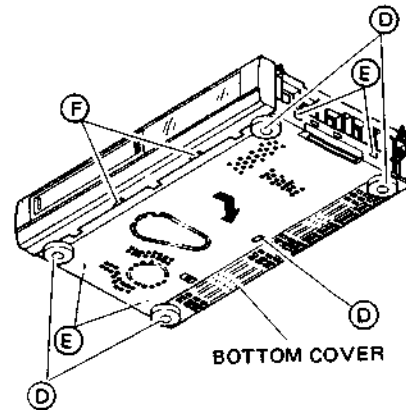

Fig. 1-1-3 Bottom cover
2. Refer to Fig. 1-1-3 and take out 5 screws (D) and disengage 4 claws (E) from the bottom of the chassis.
3. Disengage the bottom cover from the bottom of the chassis slide in direction of arrow and disengage 2 tabs (F).